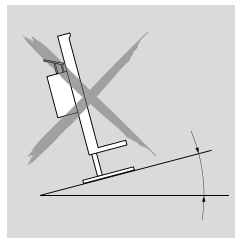

Fig. 4.1
- Ensure structural stability. Use only on safe, horizontal and non-slip surface (Fig. 4.1). Use appropriate underlay if necessary.